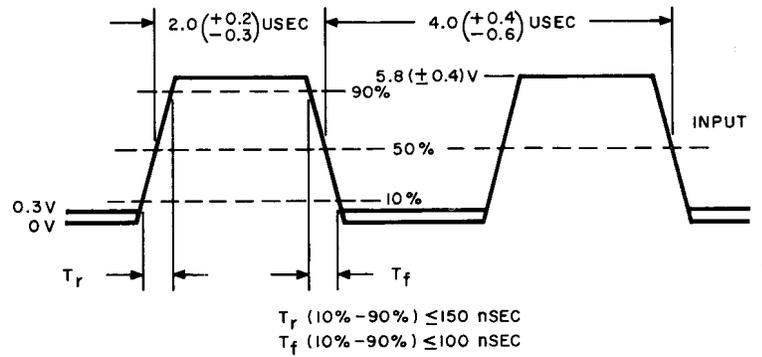

Fig. 8A — Complementary Flip-Flop Test
- (1) Connect the EXT SYNC lead to J7 on the test set.
- (2) Connect the CHAN A probe to J7 on the test set.
- (3) Connect the CHAN B probe to J4 on the test set.
- (4) The input test pulse on J7 shall be as specified in Fig. 8A.